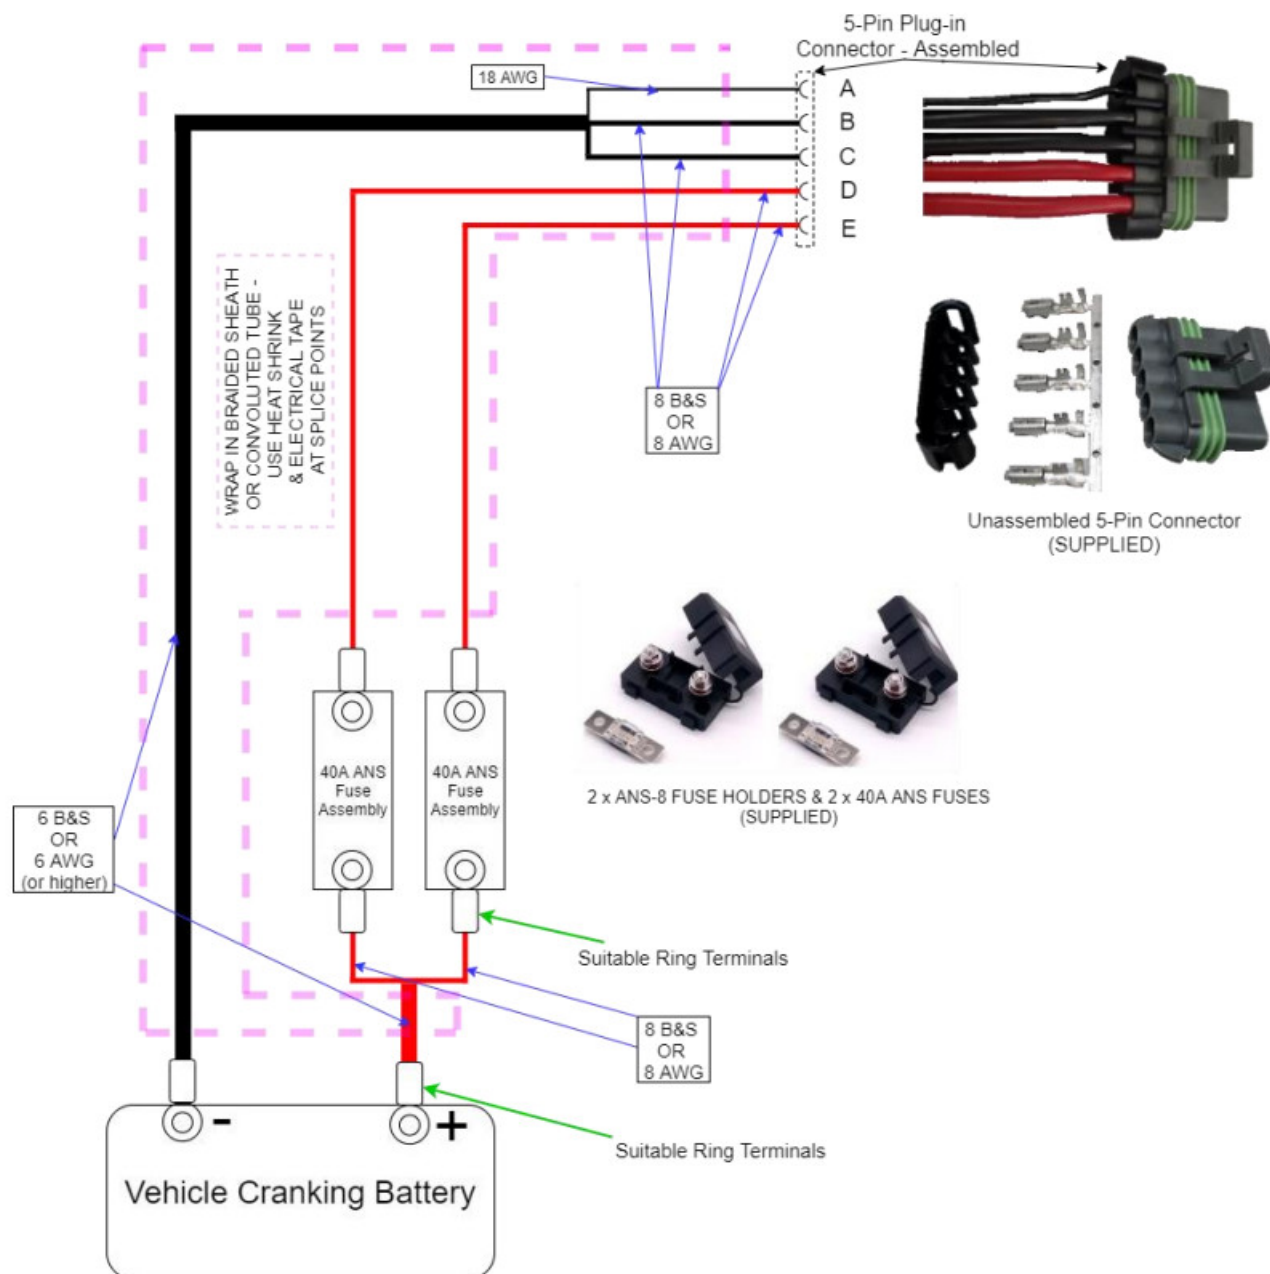

Figure 2 : Suggested Power Harness Configuration
- The recommended power supply harness configuration can be seen in Figure 2. The diagram also illustrates the MINIMUM wire gauges and any terminals required for the power harness. The routes and lengths of the wiring harness should be carefully measure before fabricating the harness.
The TJM Pro Series Twin Compressor is NOT supplied with a power supply harness, refer to figure 2 for the recommended 12V power supply installation. A female Delphi style connector and 2x 40A ANS Fuse assemblies are supplied, the Power Supply Harness must be fabricated by suitably qualified personell.